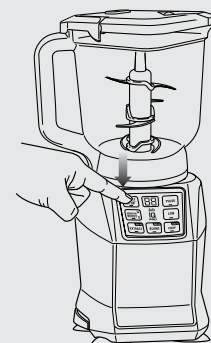

fig. 8
- 10 Once the pitcher is engaged, the programs available for that attachment will illuminate. Select the program desired based on your recipe. (Fig. 8) The Auto-iQ program will stop the appliance automatically at the end of the program.
- 3 Add the ingredients and secure the bowl lid onto the bowl. (Fig. 8)